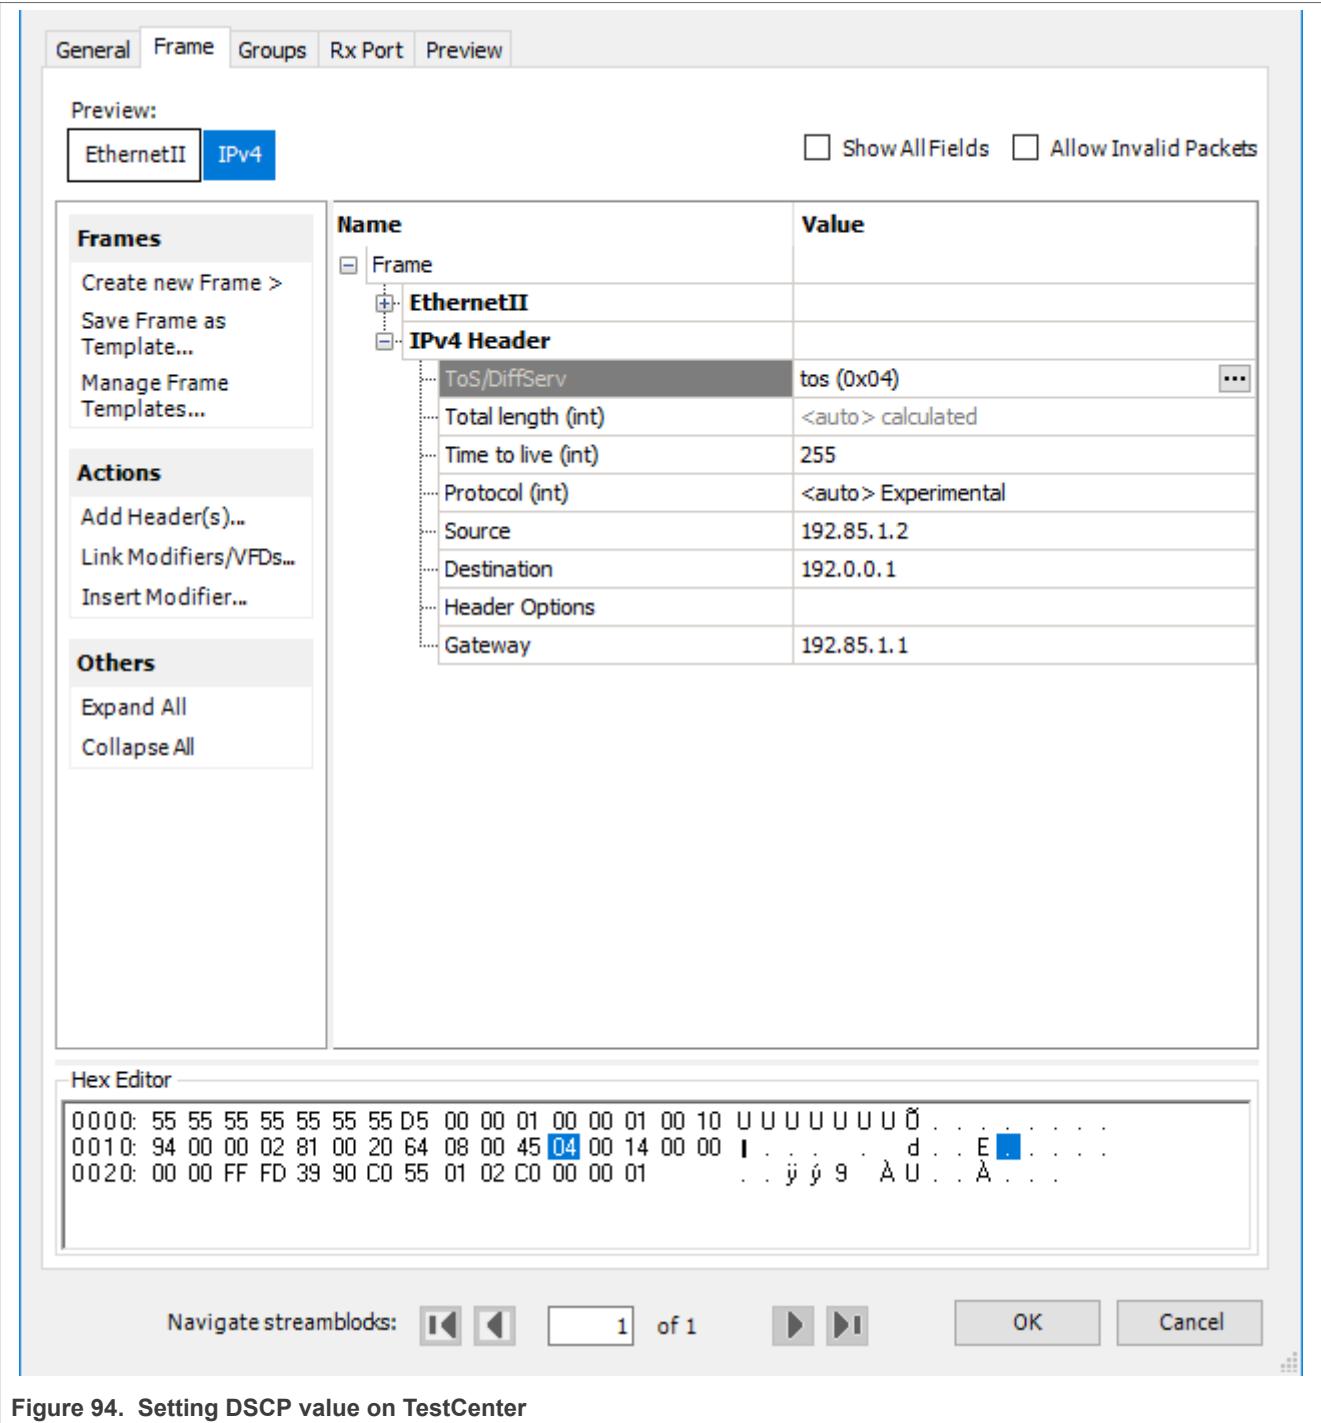

Figure 94. Setting DSCP value on TestCenter
2. Set the DSCP value on TestCenter. DSCP value is the upper six bits of ToS in IP header, set the DSCP value on TestCenter as shown in Figure 94.